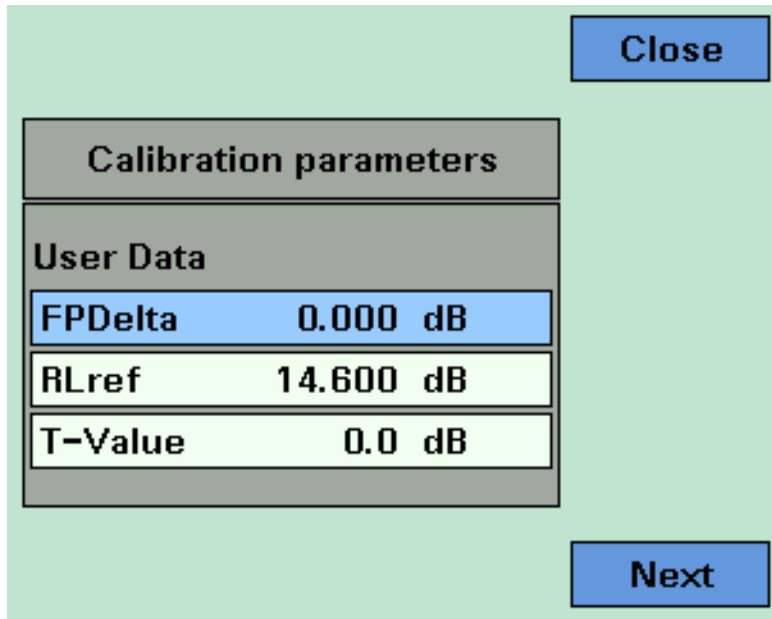

Figure 124 The Calibration Parameters Screens - User Data
- 3 Press [Next]. The *Calibration parameters* screen for *User Data* appears, as displayed in Figure 124 on page -202. This screen shows current value for the following quantities: